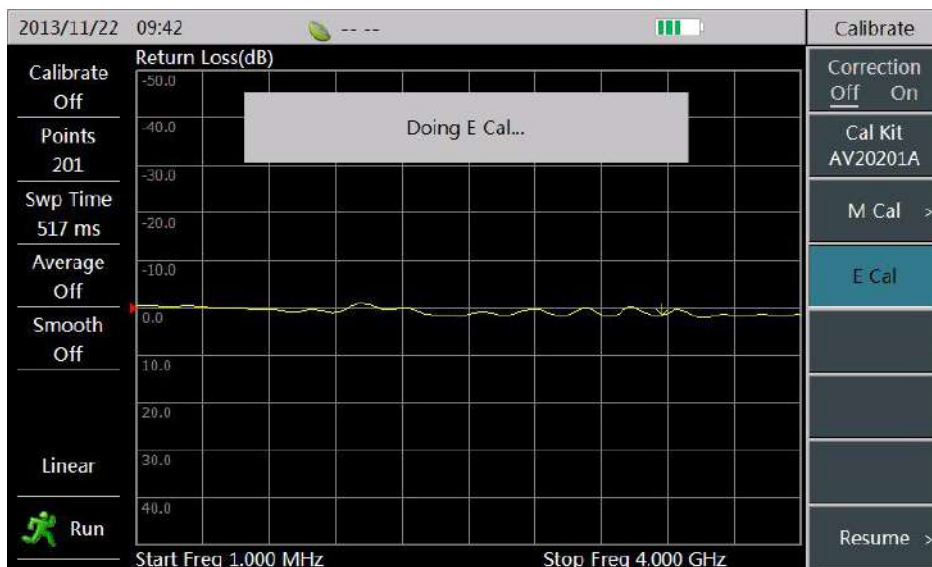

Figure 3-11 Start to Perform Embedded Calibration
- 2) After setting the frequency and sweep points, etc. other parameters, press **【Cal】** key, click [Embedded Calibration] menu item as shown in Figure 3-11, then the instrument will automatically perform a calibration procedure with a prompt saying “Doning E Cal...” displayed in the interface.